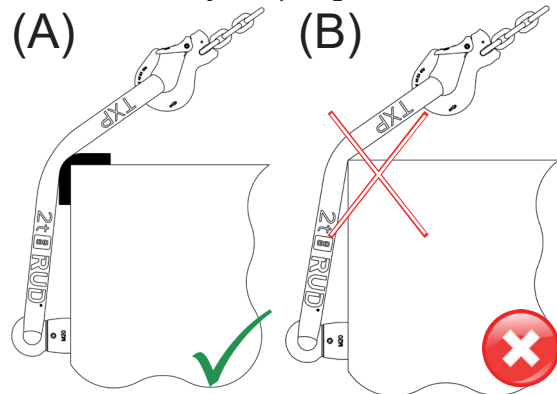

Fig. 4: A: Admissible application with edge protection
-  TXP round slings must not be placed on sharp edges, slide over them and/or be pulled across them (Fig. 4). The TXP round slings can be damaged or cut through (cf. section 4).